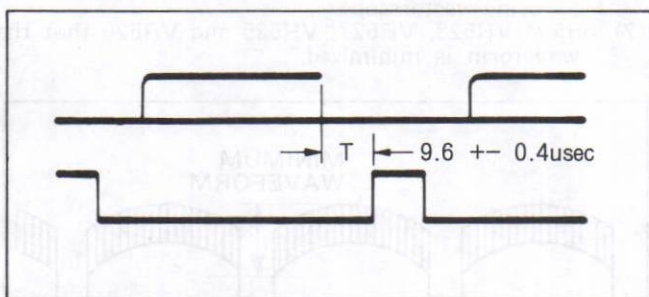

Fig.C35
- (1) Set the AF Gate Control (C703) as shown in Fig. C35.